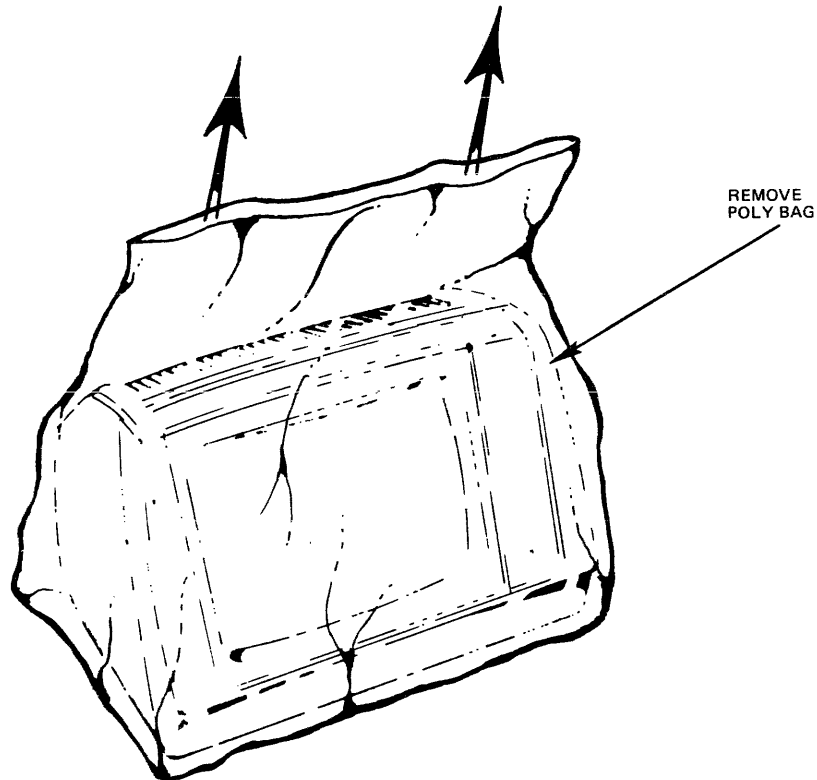

Figure 2-4. Removing Display Unit from Poly Bag
8. Untape the poly bag and carefully remove the display unit from the poly bag (see Figure 2-4).